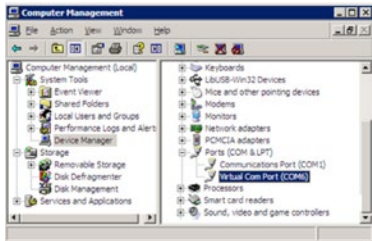

Figure 1: COM port assignment for USB CDC device in device manager window
12. After CDC driver installation, you need to find the exact COM port Windows assigned to the CDC device in device manager. To access device manager, right click the My Computer icon from your Windows desktop, then select Manage. See the COM number as indicated in Figure 1.